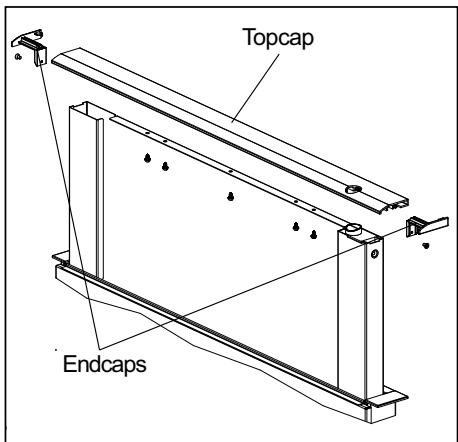

Fig. 13 – Topcap installation
- B. Install new endcaps and topcap as seen in Figure 13 (insert endcaps first). Replace screws.